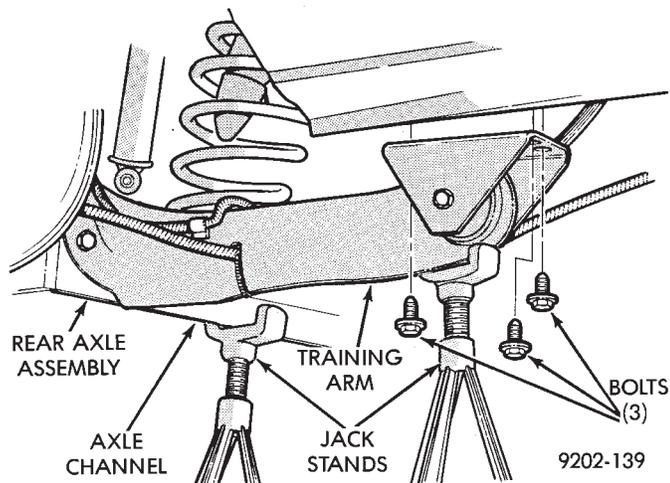

Fig. 2 Remove Pivot Bushing Hanger Bracket Bolts
- (3) Support the rear axle assembly at both the axle channel and the trailing arm with jack stands (Fig. 2). Then remove lower shock absorber to rear axle mounting bolt (Fig. 2).